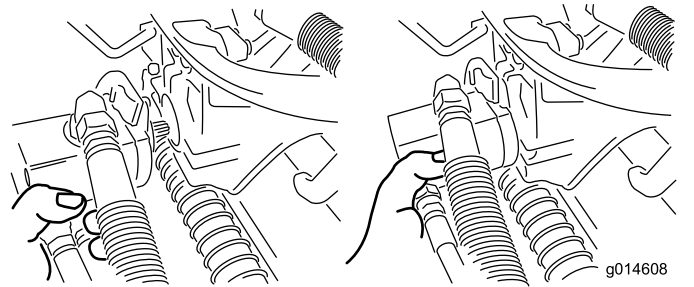

Figure 49
3. Move the motor to the storage location on the front of the suspension arm (Figure 49).